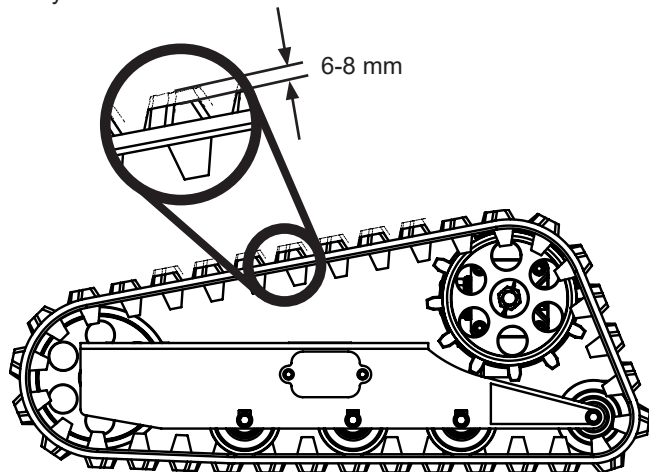

Fig. 17 - Track Tension
**Check the track tension** by pressing firmly on the track at the center between the drive sprocket and front tension wheel as shown in Fig. 17. The correct amount of movement is between 6 and 8 mm (1/4 in. to 5/16 in.).